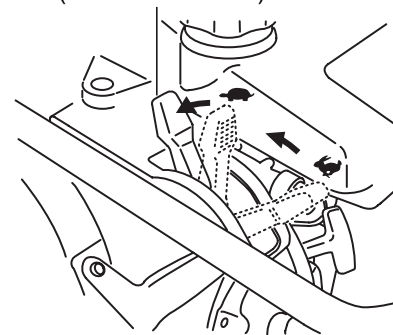

Figure 15. Throttle Lever (Stop Position)
1. Move throttle lever quickly from the **START** (☞) position to the **IDLE** (☛) position (Figure 9) and run the engine for three minutes at low speed. After the engine **cools**, move the throttle lever to the **STOP** position (Figure 15). The engine will stop and the fuel cock is automatically closed.